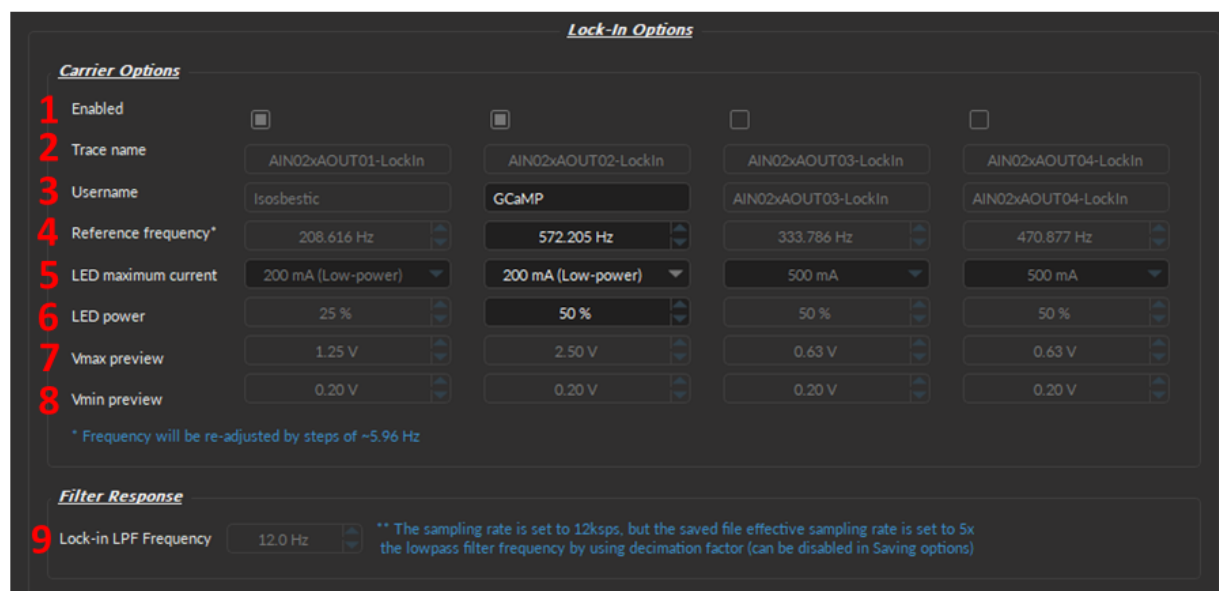

Figure 3.40: Channel(s) configuration window, Analog Input Lock-In
The **Lock-In Mode** parameters are as follows (Fig. 3.40):
1. The **Enable** (Fig. 3.40, 1) row lets users select which output channel to include in the Lock-In settings by clicking the respective check boxes. Each column corresponds to an Analog Out channel of the console (in order, such
2. **Trace Name** (Fig. 3.40, 2) is the identity of the Input and Output Channel(s) enabled for this Lock-In configuration.
- The **AOUT #** number corresponds to the Analog Out port on the console that sends electrical information (including the reference frequency) to the *LED Driver*. While you cannot change the **AOUT #** since it is native to each column of the **Carrier Frequency Options** (Fig. 3.40), changing which port is enabled using the checkbox (Fig. 3.40) or physically moving the cable to a different port on the console allows user to specify the connection of the output.
3. **Reference Frequency** (Fig. 3.40, 4) is the oscillating trigger signal that drives the LED (or device(s) of choice). We recommend using the default values since they are optimized for fiber photometry. But, if modified, frequencies will be re-adjusted in steps of 5.96 Hz. In addition, the reference frequency should not be a multiple of known noise frequency (e.g. 50 and 60 Hz), or a multiple of another reference frequency.
4. **LED maximum current** (Fig. 3.40, 5) is the largest current that the LED can handle. This value should be set either in low power mode (recommended) or based on the intrinsic maximum current of the LED in use (500 mA or 1000 mA, depending on the type of LED).
5. **LED power** (Fig. 3.40, 6) is the percentage of maximum current (converted to voltage) that will be used as **Vmax** and in **External Mode** during the recording, since the LED driver outputs a current proportional to the voltage with a conversion factor of 400 mA/V in standard operation mode, and 40 mA/V in low-power mode.
6. **Vmax Preview** - automatically displays the maximum voltage based on the **LED maximum current** and the **LED power** selected above (Fig. 3.40, 7). **Vmax** can be changed if the **Custom** LED maximum current mode is selected. The **Vmax** should never be below 0.3 V, nor above 4.7 V.
- **Note:** If you are using GCaMP and its isosbestic, we recommend that the isosbestic demodulated trace be about half the power of the GCaMP demodulated trace to reduce the risk of photobleaching (as in Fig. 3.40, 6).
7. **Vmin Preview** (Fig. 3.40, 8) - the default value is set to 0.2 V, but can be changed if the **Custom** LED maximum current mode is selected. The **Vmin** should never be below 0.1 V.
8. **Lock-in LPF Frequency** (Fig. 3.40, 9) define the **Cutoff Frequency** of the low-pass filter that extracts the signal and is set to 12 ksp/s by default. This value was selected because in photometry experiments, the greatest source of noise to the filter is around the carrier frequency above 200 Hz. Thus, with the current filtering algorithm, a cutoff frequency of 12 Hz (corresponding to a decimation factor of 200x) gives the best filtering results.